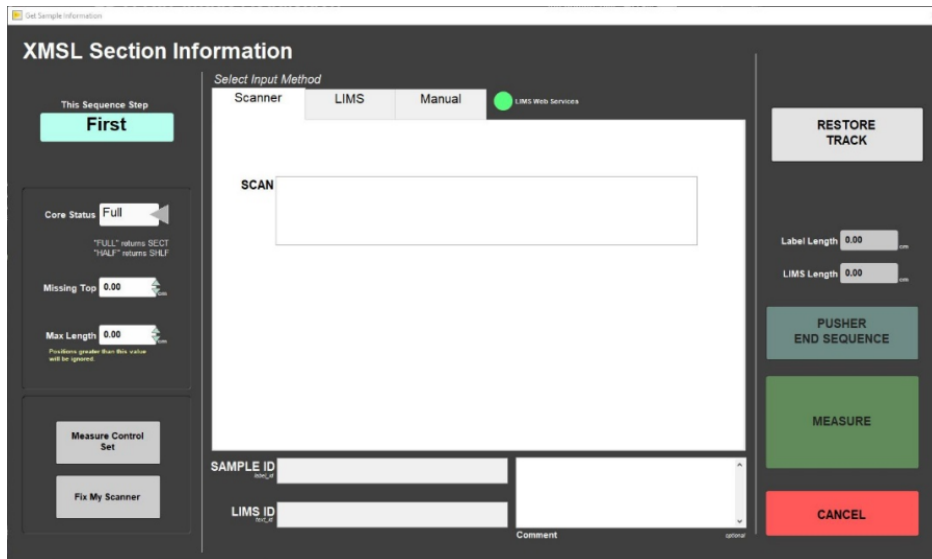

Figure 4. XMSL Section Information Screen.
2. Click **START**. The **Section Information** screen is displayed (Figure 4).